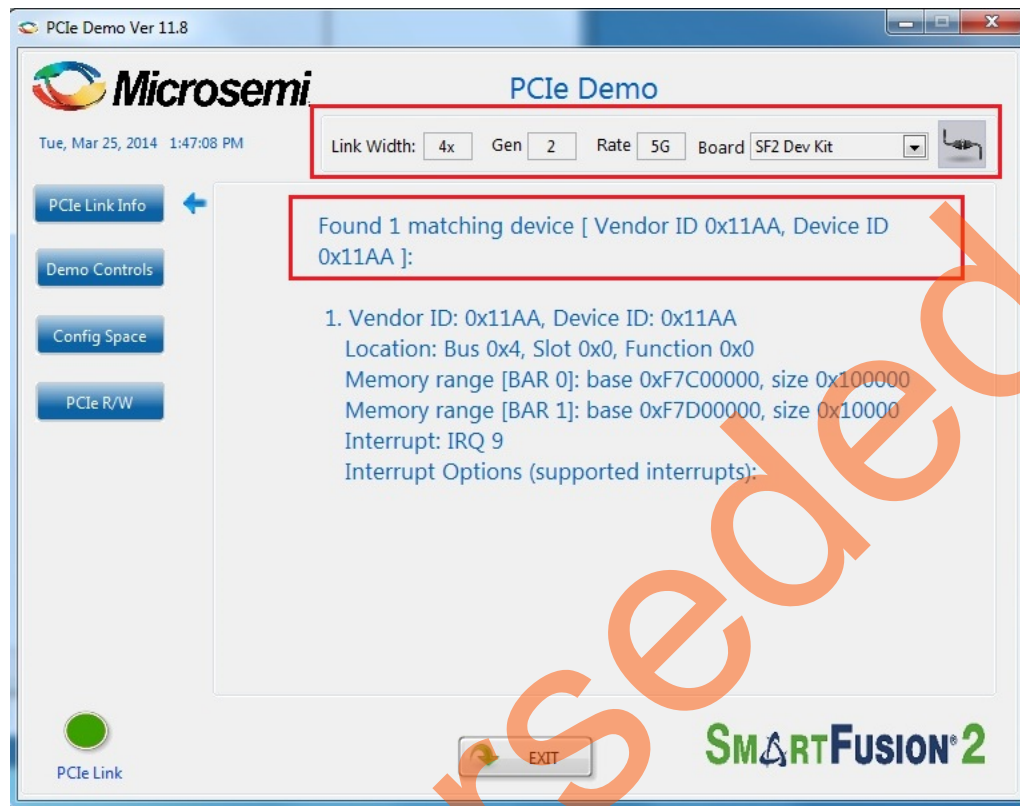

Figure 69 • Version Information
- Click the **Connect** button at the top-right corner of the GUI. The messages will be displayed on the GUI as shown in Figure 69.